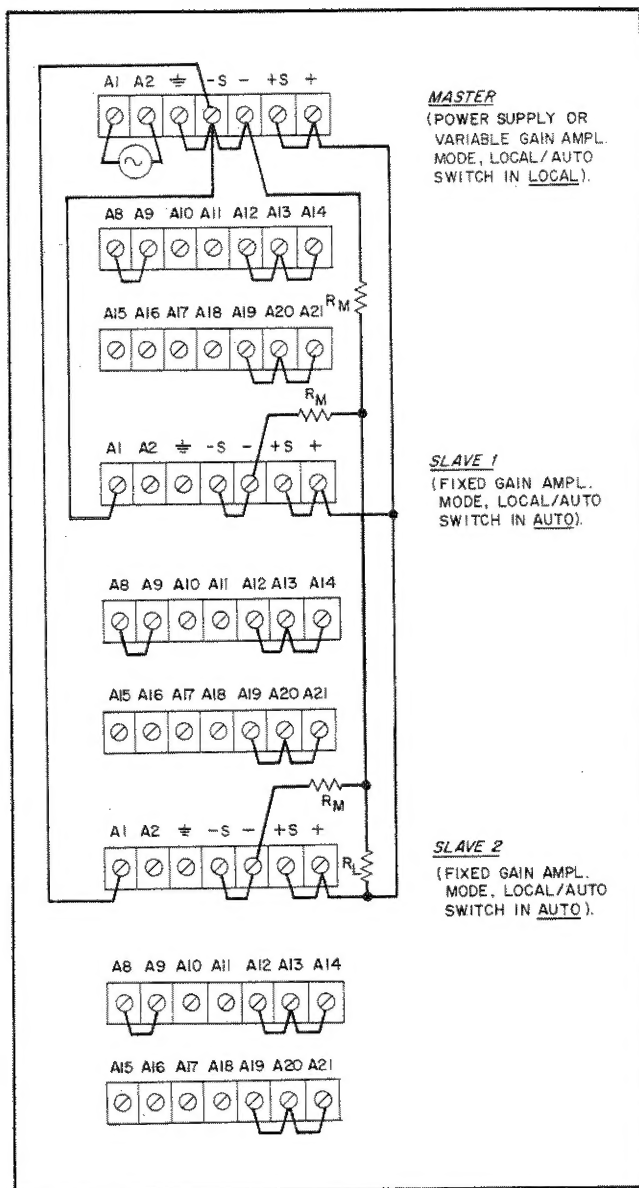

Figure 3-13. Auto-Parallel Connections, Three Units
**3-61 Auto-Parallel Operation.** Two or more BPS/A's can be connected in auto-parallel arrangement to obtain an output current greater than that available from a single supply. Figure 3-13 illustrates the auto-parallel connections for three supplies to allow increased output current in constant voltage operation. When this arrangement is used, current sharing under all load conditions is permitted under control (front panel CURRENT control or remote programming) of the master supply. Because the CURRENT controls (or remote programming) of each slave are operative, they should be set to a maximum to prevent the slave reverting to constant current operation; this could occur if the master output current setting exceeded the slave's. For equal current sharing, the leads from RM to the load and to the (-) terminals should be approximately equal in length. To maintain instrument accuracy and stability, RM should be a stable, low temperature coefficient resistor of sufficient rating to prevent any appreciable self-heating (typically 1 $\Omega$ , 8W,  $\pm 20$  ppm/ $^{\circ}C$ ,  $\pm 1\%$ ).